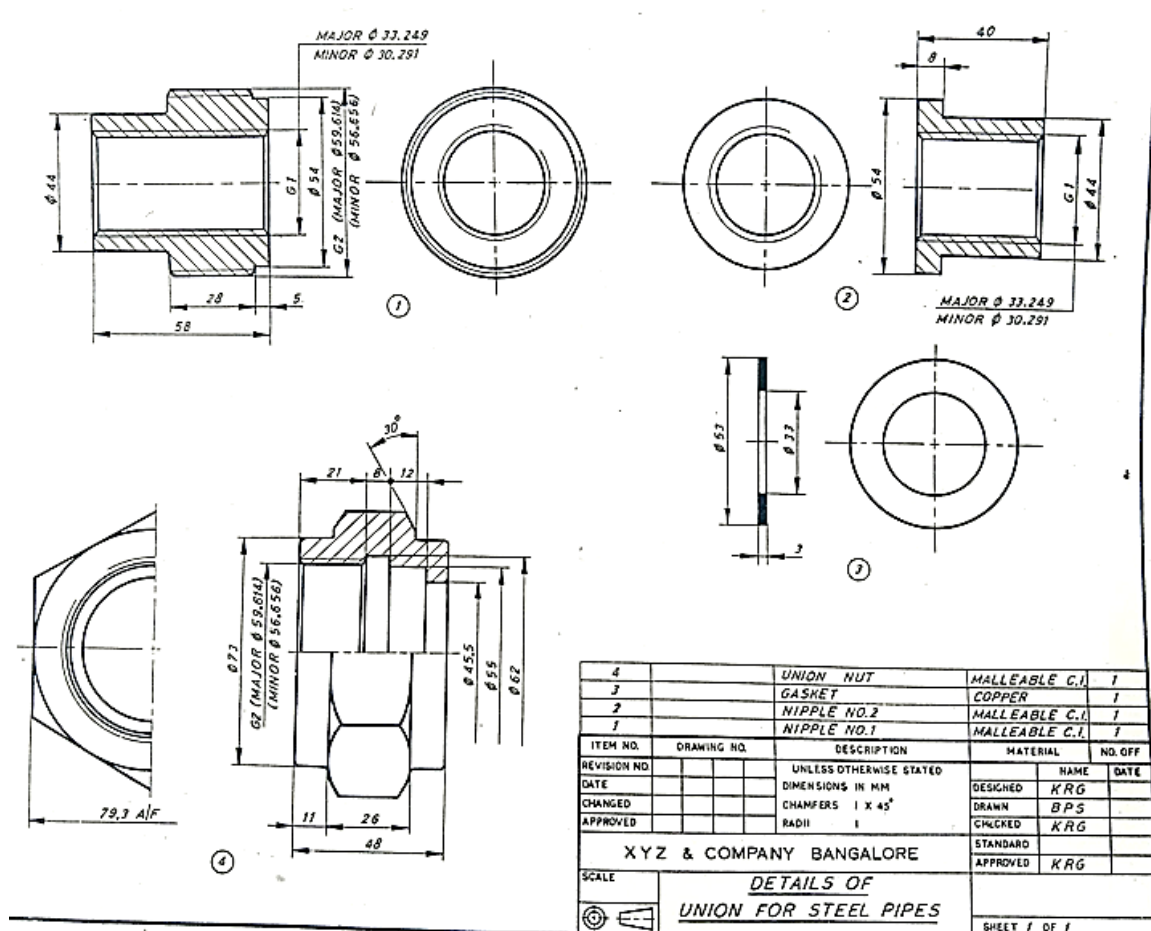

Figure 10.3: Details of Union joint.
10.3 Create a 3D assembly model of Union joint, part drawings are shown in Figure 10.3. Generate front view, top view, left side view and isometric shaded model view of assembly.